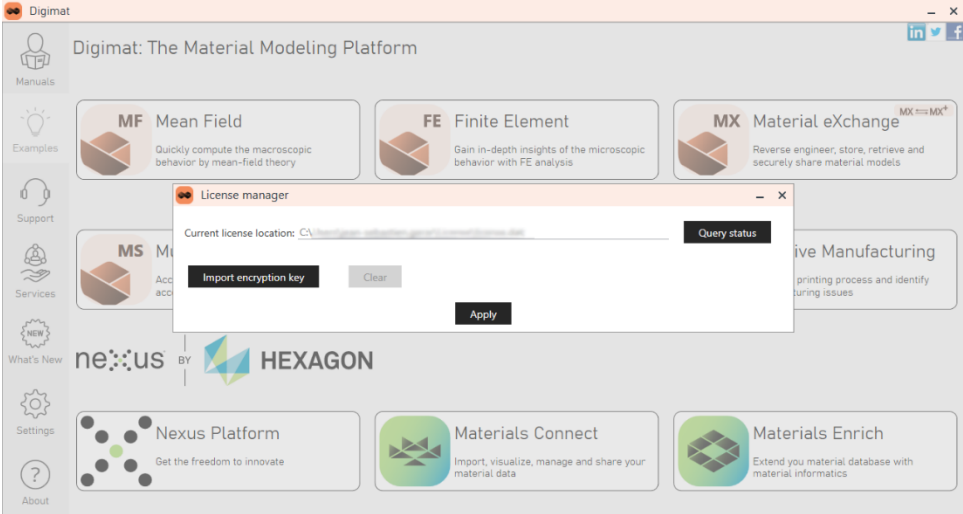

Figure 1-2 Checking the licensing location via the Digimat GUI.
The licensing location defined by MSC_LICENSE_FILE can be directly checked by using the **License** option of the Digimat platform (see Figure 1-2). Clicking on **Query status** will give a status of license server defined in MSC_LICENSE_FILE (number of available/used licenses...).
- Go to the Digimat platform to have access to the license management functionalities (see Figure 1-2). There you will have access to a button named **Import encryption key**. Click on the button, select your .priv file, click **OK** and then click the **Apply** button. Perform this procedure as many time you have received different encryption key files.